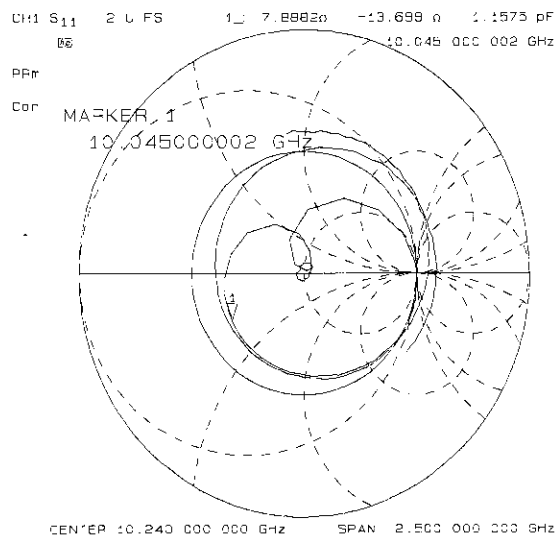

Figure 2-15. Example Impedance Measurement Trace
2. Press **Marker Fctn** **MKR MODE MENU** **SMITH MKR MENU** and turn the front panel knob to read the resistive and reactive components of the complex impedance at any point along the trace, as shown in Figure 2-15. This is the default Smith chart marker.